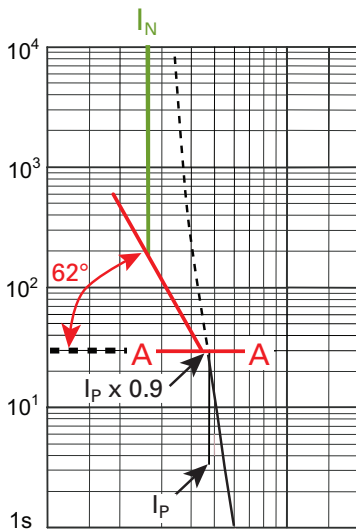

Figure C3. A-A curve.
- The prospective short-circuit current ( $I_p$ ) found for the time equal to the intersection between the A-A curve and the actual melting curve should be multiplied by 0.9 ( $I_p \times 0.9$ ) and this point is marked on the A-A curve (Figure C3)